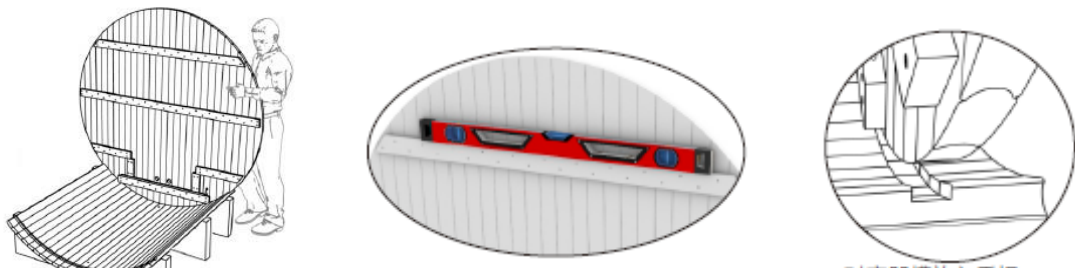

figure 5b
B. Two people will need to lift the rear panel up and into the groove on the staves. Make sure the rear wall is positioned at where the rear of the barrel sauna will be and align the slots to accept the rear panel placement. One person will need to hold the rear panel in place to prevent it from falling. Use the leveler to position the rear panel vertically and horizontally straight. See figure 5b.